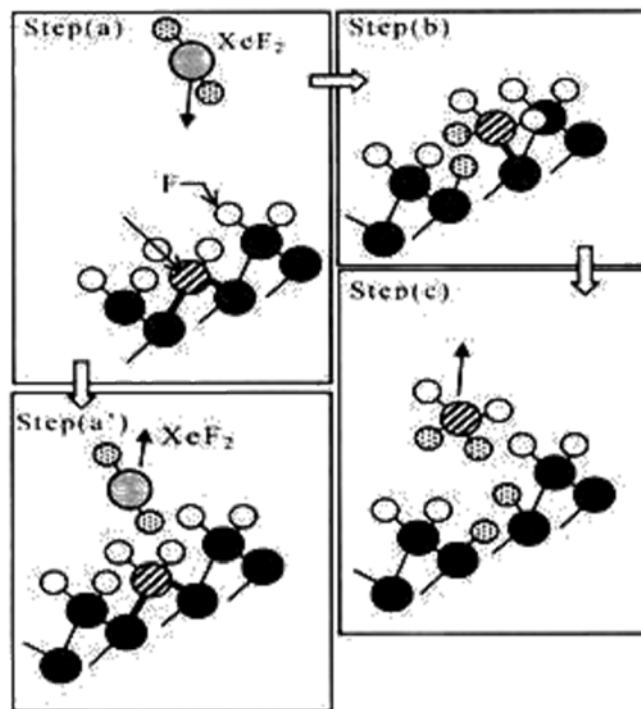

Figure Q4[d]
[d] Refer to Figure Q4[d]
- (i) Explain the working mechanism for plasmaless etching method in Figure Q4[d]. In explanation, show the chemical reaction for Xenon Difluoride (XeF_2) and suitable etching layer for this method.
- (ii) Define the etching selectivity. What is selectivity between etching layer and SiO_2 layer for etching process in Figure Q4[d].